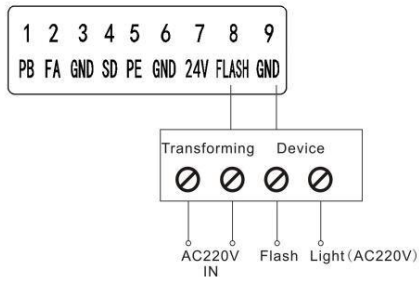
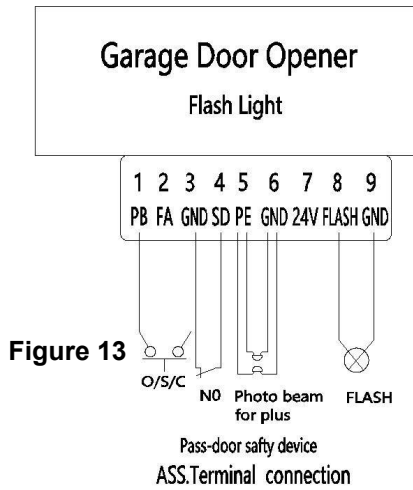

Figure 12
Figure 13
2. Flash light function. (Fig. 12, Fig. 13)
3. Pass door (SD) protection (Fig. 13)